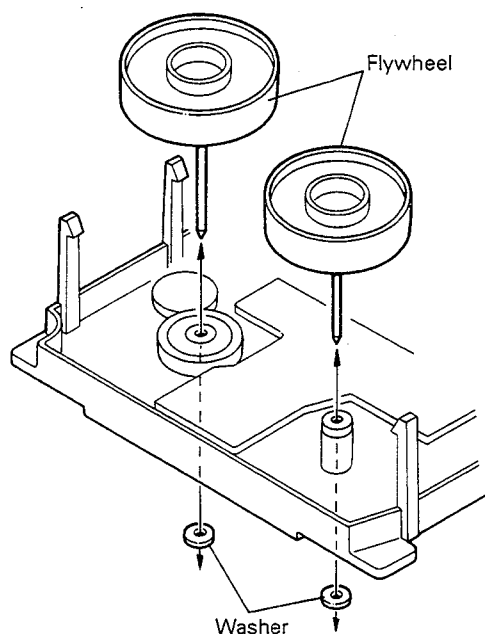

Fig. 7-23
■ **Flywheel assembly** (Fig. 7-21, Fig. 7-23)